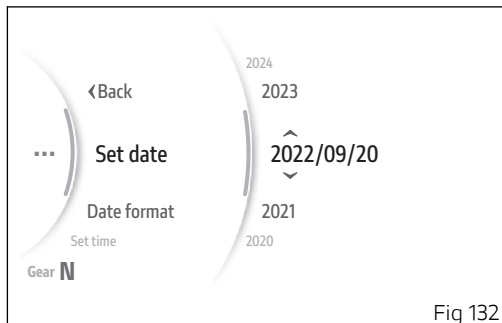

Fig 132
- From the Interactive Menu, use buttons (1) and (2) to select the item "Setting menu" and press ENTER (3).
- Select the "Date and time" item and press ENTER (3).
- Select the "Set date" item and press ENTER (3).
The first parameter of the date (the year in the example) becomes selectable and is displayed with two arrows placed above and below it; the available values for the displayed parameter are also displayed above and below it (Fig 132). Use buttons (1) and (2) to scroll and select the desired value. Press ENTER (3) to confirm and move on to the following parameter.